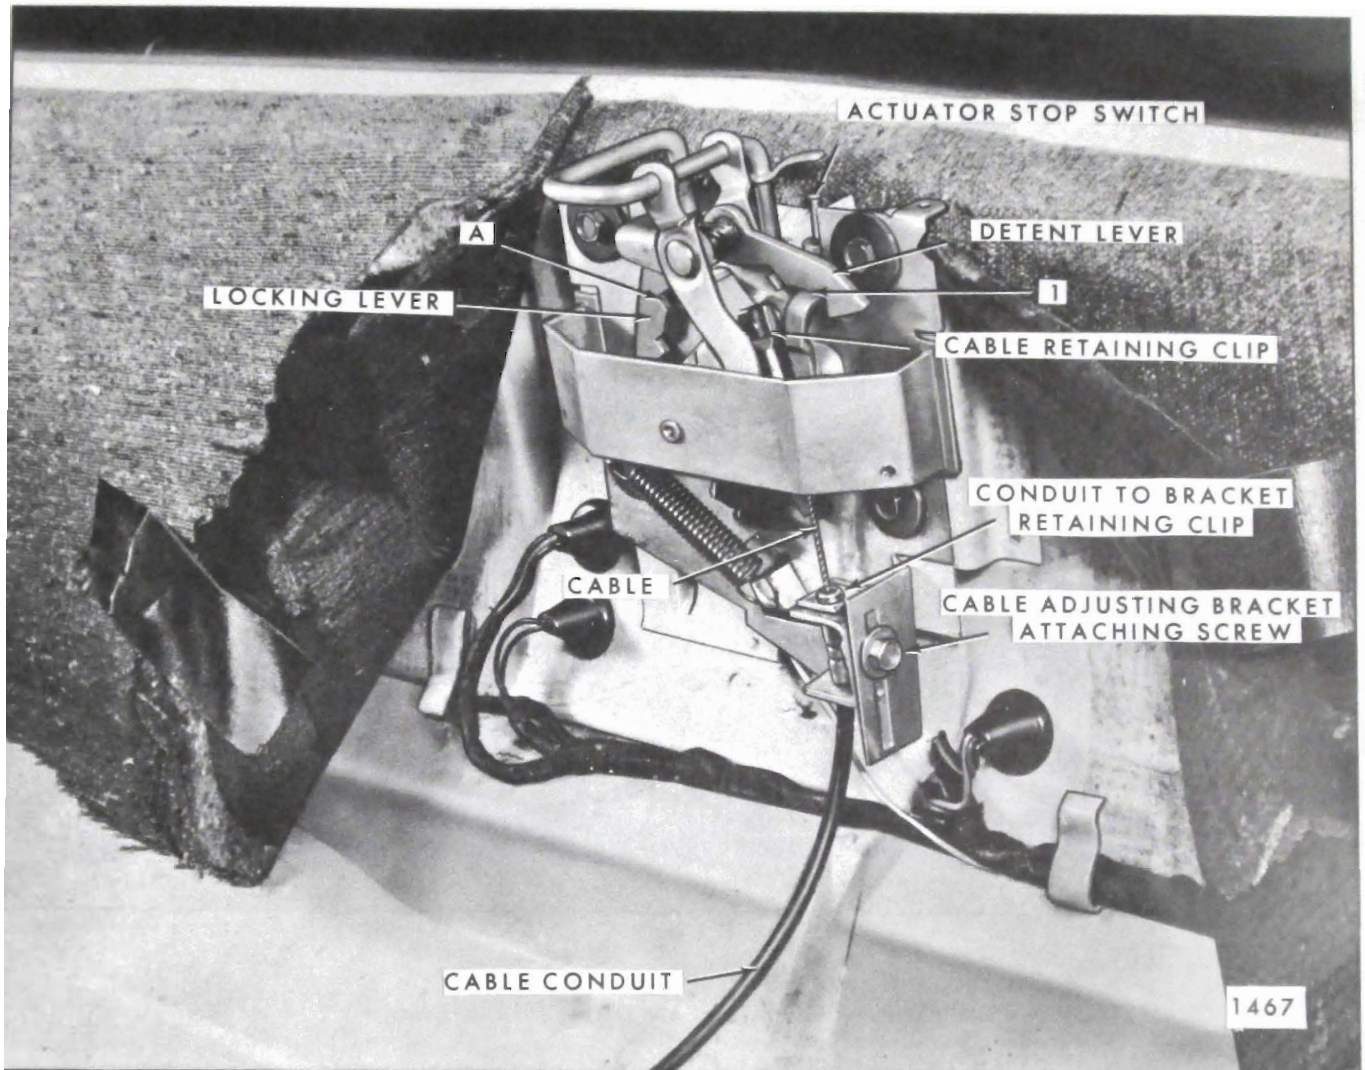
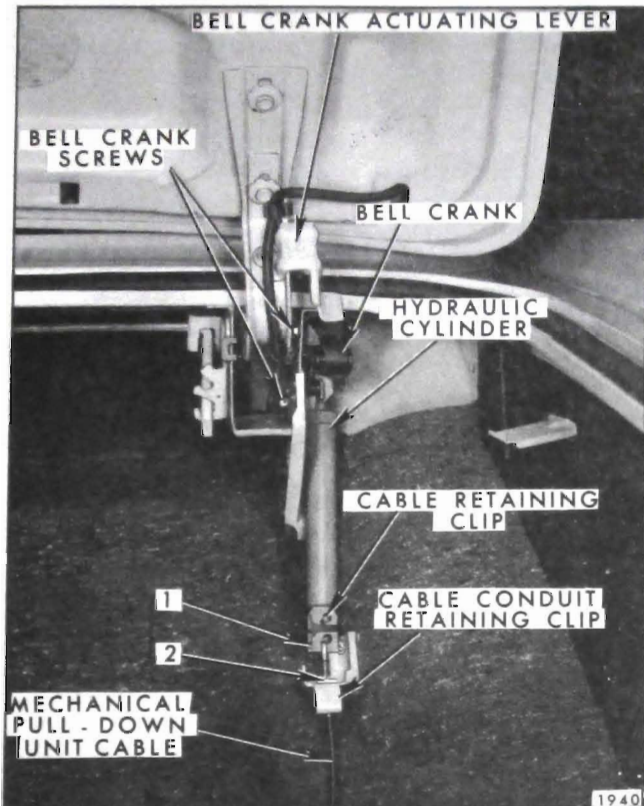
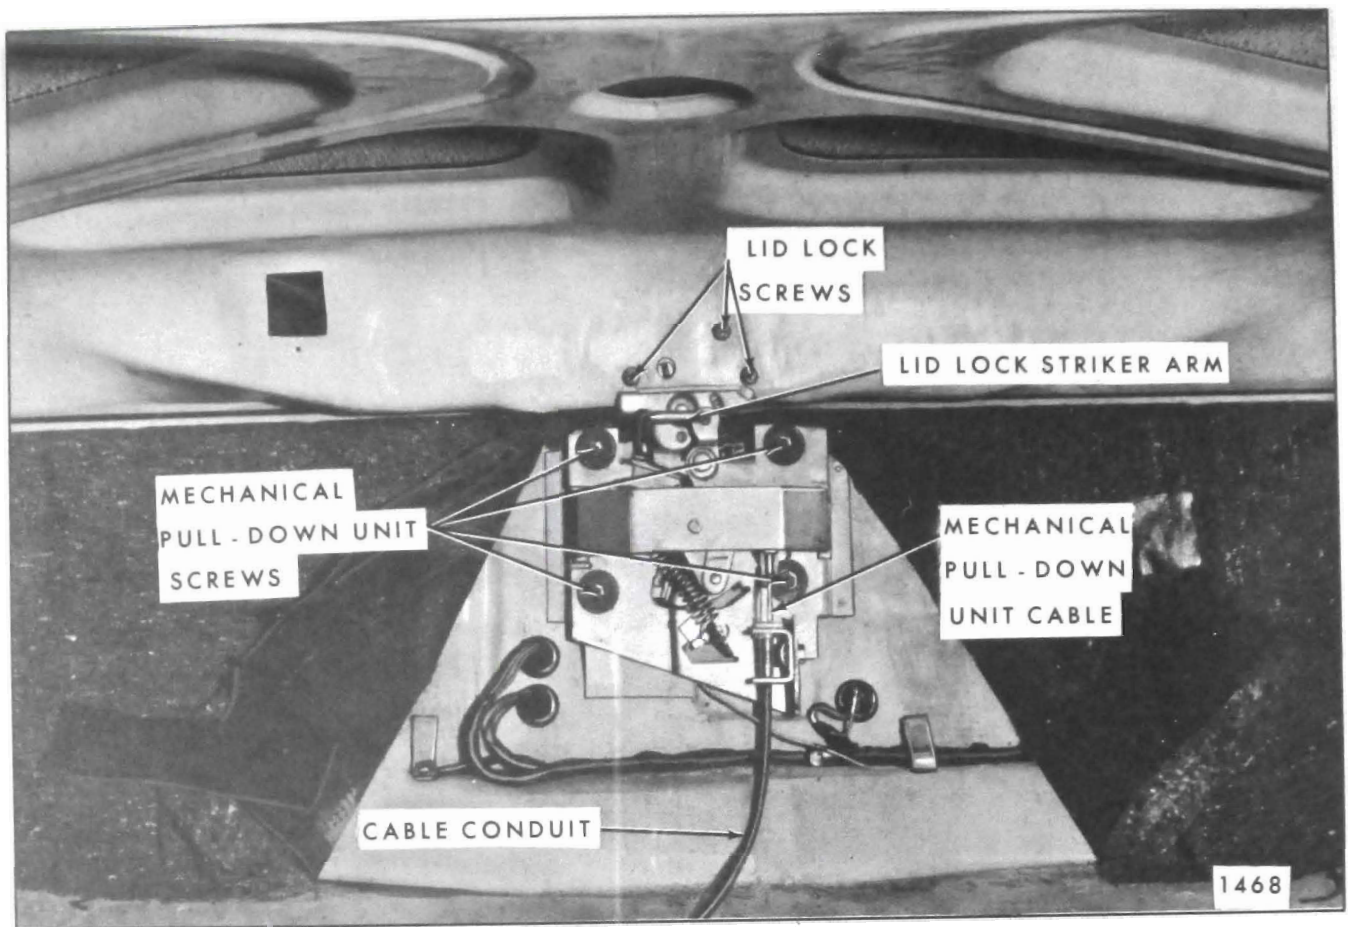

Fig. 8-19—Rear Compartment Lid Mechanical Pull-Down Unit
Fig. 8-21 — Mechanical Pull-Down Unit Hydraulic Cylinder
Fig. 8-20—Rear Compartment Lid Mechanical Pull-Down Unit
1. On lower end of hydraulic cylinder pull clip away from hooked end of pull-down unit cable. Disengage cable from slot in cylinder. Disengage cable conduit retaining clip from support on wheelhouse and remove cable and conduit from support (Fig. 8-21).
2. Repeat this procedure at other end of cable, disengaging clips securing cable to pull-down unit and cable conduit to adjusting bracket (Fig. 8-19), and remove cable from body.
1. Open rear compartment lid. Remove mechanical pull-down unit cover panel. Depress striker slightly to relieve tension from cable and disengage clip securing cable to pull-down control arm (Fig. 8-19).
2. Disengage clip securing cable conduit to cable adjusting bracket and disengage cable and cable conduit from pull-down unit (Fig. 8-19).
3. Scribe (mark) position to pull-down unit on rear end panel and supports to facilitate reinstalling unit in same position. Remove pull-down unit attaching bolts and remove unit from body (Fig. 8-20).
To increase cable tension, position hydraulic cylinder end of cable in the upper slot on the lower end of the cylinder ("1" in Fig. 8-21). If more tension, or finer adjustment, is required, loosen cable adjusting bracket attaching screw (Fig. 8-19). Adjust bracket downward (to increase cable travel) and tighten attaching screw.
To decrease cable tension, position hydraulic cylinder end of cable in lower slot on hydraulic cylinder ("2" in Fig. 8-20). For finer adjustment, or to lessen tension still more, loosen cable adjusting bracket attaching screw (Fig. 8-19). Adjust bracket upward to desired position and tighten attaching screw.
**IMPORTANT:** The lack of lubrication between the toggle and the detent lever ("1", Fig. 8-19) can greatly increase the effort required to trip (unlock) the pull-down unit. Therefore, make certain point of contact between these two levers is lubricated with 630 AAW Lubriplate or its equivalent.